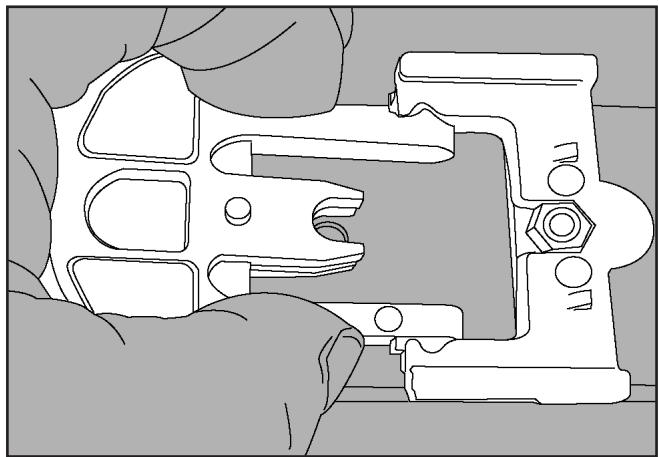

Figure 11
11. With the loose buffer tube attached, remove the SLIDE-N-LOCK splice tray from the SLIDE-N-LOCK splice tray bracket. (Figure 11)